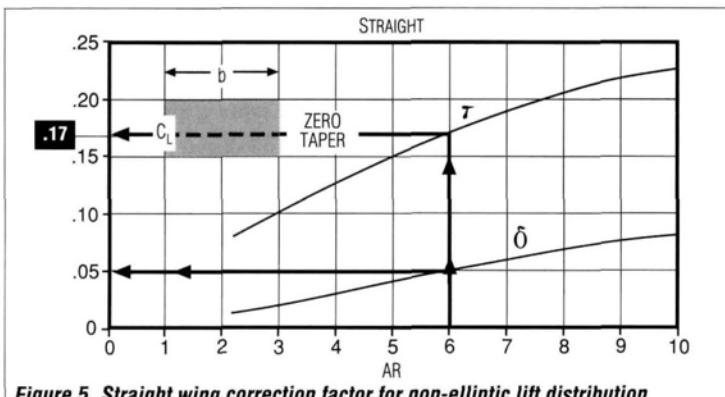
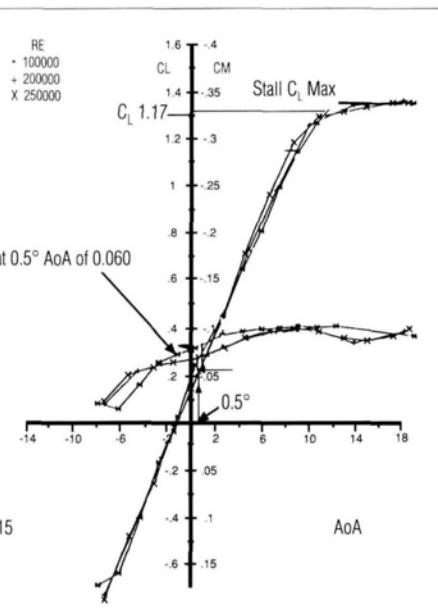
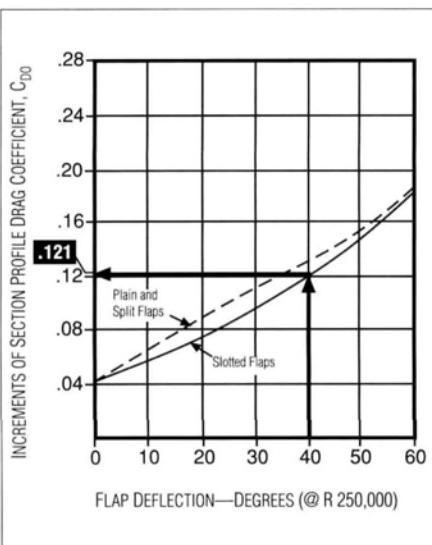

Figure 5. Straight wing correction factor for non-elliptic lift distribution.
Figure 10
Figure 16. Increments of profile drag coefficients at C_L max or increasing flap deflection.
- T = planform adjustment factor (figures 5 and 6).
In Figure 5, a constant-chord wing of AR6 has an adjustment factor T of .17.
Figure 16 shows the added profile drag coefficient to be added to the section's (Figure 1) profile drag coefficient, when calculating the total of both profile and induced drags, discussed under "drag," as follows.
The drag coefficients shown in Figures 10 and 16 are profile drag only. C_L max profile drag of the unflapped E197 is 0.015 (Figure 10) and for full-span slotted flaps would be an additional 0.121 (Figure 16), for a total of 0.136 in profile drag. Induced drag is not included. Note the very small increase in E197's profile drag for C_L 0.20 to C_L max 1.17.
σ = planform drag adjustment factors (Figures 5 and 10).
Our model's wing has a profile drag coefficient of 0.013 at C_L 0.20 (Figure 10) and a drag planform adjustment (Figure 5) of 0.05.
(Figures 10 and 16)